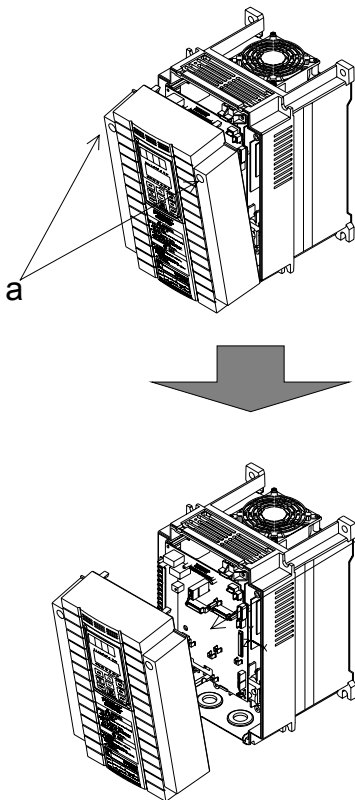

Fig. 7-1 Removing Method of Front Cover
As shown in Fig. 7-1, loosen 2 front cover screws at (a) and remove it by holding the upper part of the front cover.
- (1) Mount 3 spacers (g) accompanying this option at the option's mounting fitting (a,b,c) of the control printed circuit board.
- (2) Mount the option so that the option connector (CN1) (at the back of option) may be inserted into the connector (CN2) of the control printed circuit board.
- (3) Tighten 3 accompanying screws (h) in the mount holes of the option and fix the option.
- (4) Refer to "Removing Method of Front Cover" in Figs. 7-1 and 7-2. Mount the front cover in the reverse order of removal.
- (1) Mount 3 spacers (g) accompanying this option at the option's mounting fitting (d, e, f) of the control printed circuit board.
- (2) Mount the option so that the option connector (CN1) (at the back of option) may be inserted into the connector (CN3) of the control printed circuit board.
- (1) Insert OPC-VG7-UPAC/SX into the connector (CN10) of the control printed circuit board.
- (2) Mount and fix 6 spacers (h) accompanying OPC-VG7-UPAC/SX in the mount holes (a, b, c, d, e, f) of the OPC-VG7-UPAC/SX option.
- (3) Mount the option so that the option connector (CN1) (at the back of option) may be inserted into the connector (CN2) of the control printed circuit board.
- (4) Tighten 3 accompanying screws (j) in the mount holes of the option and fix the product.
- (5) Refer to "Removing Method of Front Cover" in Figs. 7-1 and 7-2. Mount the front cover in the reverse order of removal.
- (2) Mount 6 spacers (h) accompanying OPC-VG7-UPAC/SX in the mount holes (a, b, c, d, e, f) of the OPC-VG7-UPAC/SX option and mount a spacer (i) accompanying the communication option at the option mounting fitting (g) of the control printed circuit board.
- (3) Mount the option so that the option connector (CN1) may be inserted into the connector (CN3) of the control printed circuit board.
- (1) Mount 3 spacers (g) accompanying the option at the option mounting fitting (d, e, f) of the control printed circuit board.
- (2) Mount the option so that the option connector (CN1) (at the back) may be inserted into the connector (CN3) of the control printed circuit board.
- (4) Connect the accompanying power harness to CN2 of this option and CN12 on the control printed circuit board.
- (2) Mount 5 spacers (h) and a screw (i) accompanying OPC-VG7-UPAC/SX in the mount holes (a, b, c, d, e, f) of the OPC-VG7-UPAC/SX, and mount a spacer (j) accompanying this option at the option fitting (g) of the control printed circuit board.
- (4) Tighten 3 accompanying screws (k) in the mount holes of the option and fix this option.
- (5) Connect the accompanying power harness to CN2 of this option and CN12 on the control printed circuit board.
- (6) Refer to "Removing Method of Front Cover" in Figs. 7-1 and 7-2. Mount the front cover in the reverse order of removal.